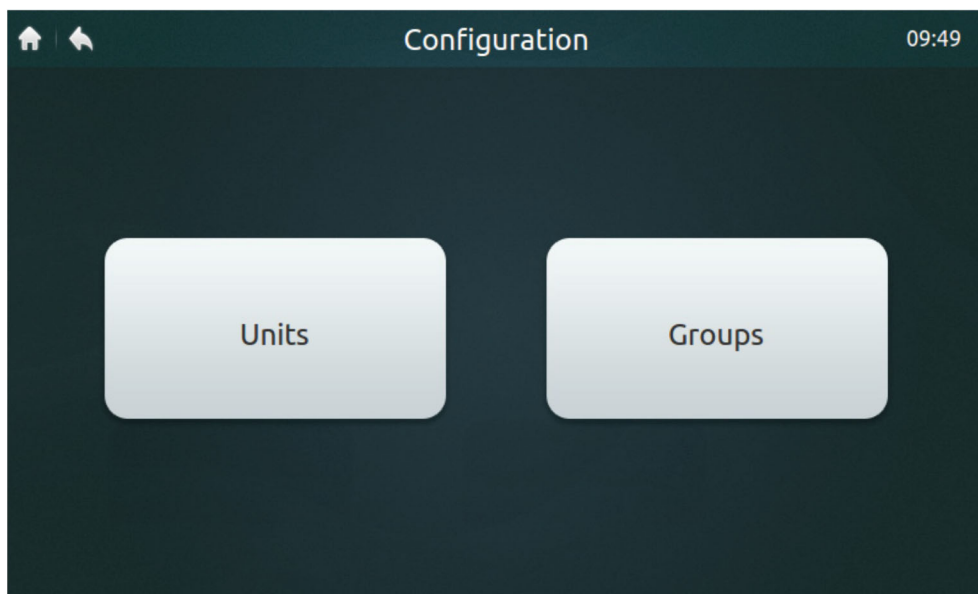
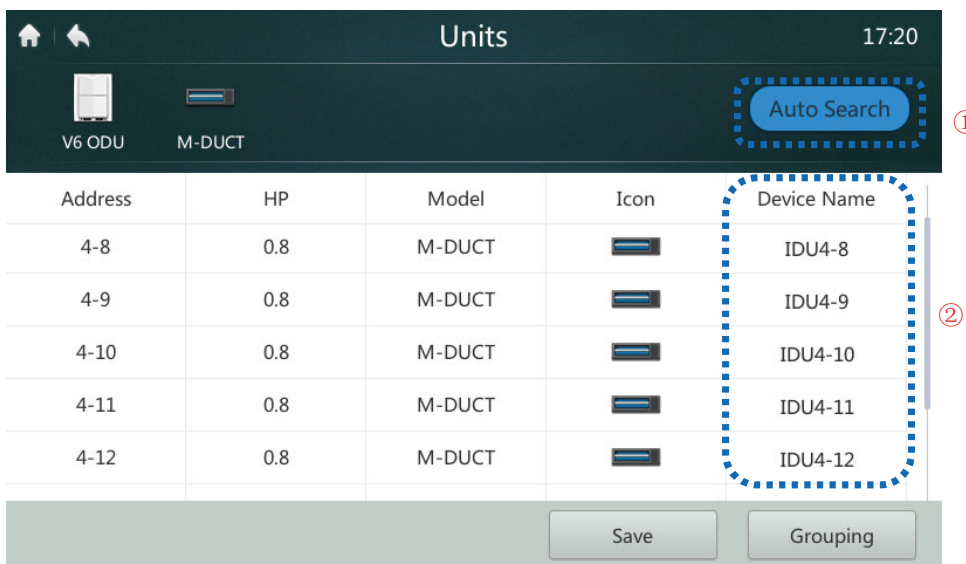
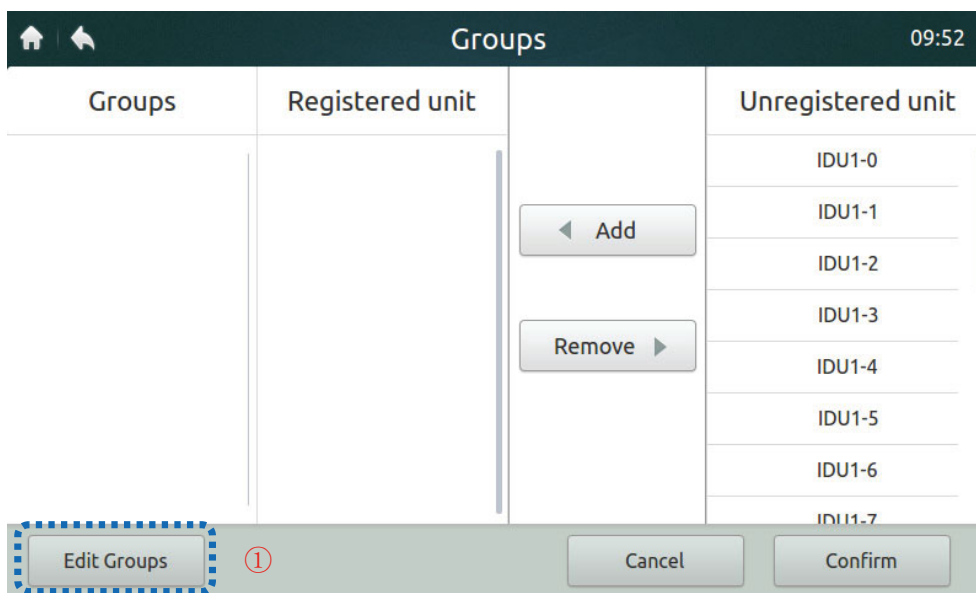
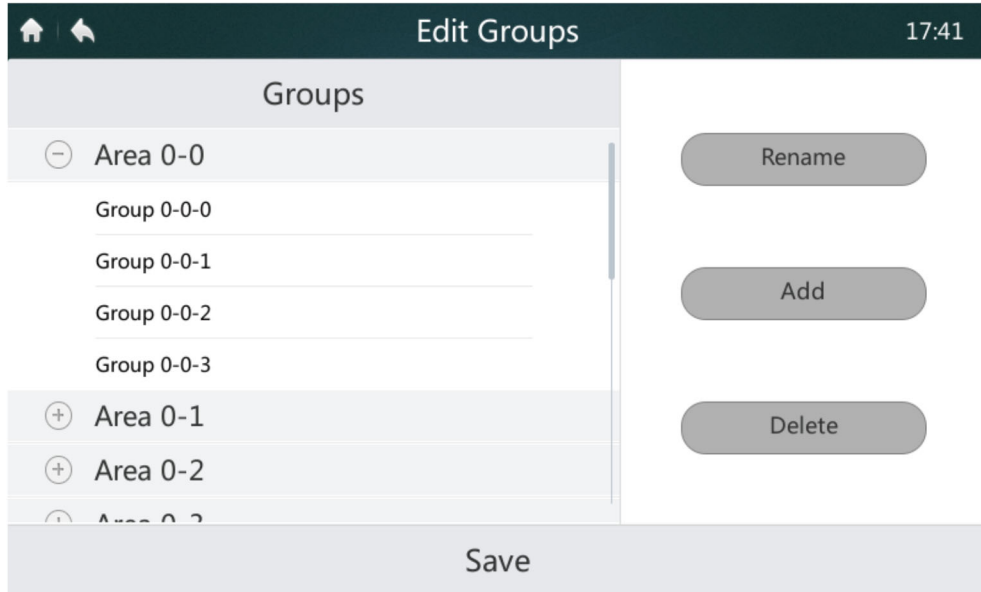

Figure 35 Homepage of Installation interface
Figure 36 Device installation page
Figure 38 Homepage 1 of Group View page
Figure 39 Editing a group
1. Tap the "Units" button, as shown in Figure 35, to enter the interface, as shown in Figure 36.
2. Tap the "Auto Search" button marked "1" in Figure 36. The connected device will be displayed on the interface. The table displays the IDU HP, IDU type (the correct type can be displayed correctly for second-generation IDUs only. Other types are first-generation IDUs), type icon (the correct type can be displayed correctly for the second-generation IDUs only. The Four-way Cassette icon is displayed for other units), and device name.
marked "2" in Figure 36 to display the input keyboard in the lower part of the screen, as shown below. Edit the device name of the corresponding address, and tap "Confirm".
1. Tap the "Groups" button marked "2" in Figure 35 to access the group view page in Figure 38. Figure 38 shows the interface where no groups are created.
2. First create a group. Tap the "Edit Groups" button marked "1" in Figure 38 to access the interface shown in Figure 39.
3. Groups can be classified into two levels (e.g.: level 1 - Area; level 2 - Group). Up to 10 groups can be created at level 1. Up to 5 groups can be created at level 2. Tap the "Add" button, as shown in Figure 38, to add the first level group by default. Tap to select the first level Area. Tap the "Add" button to add the second level group. To delete a group, select this group, and tap "Delete".
4. Select a group and tap "Rename", as shown in Figure 39, to edit the selected group name.
5. Tap the "Save" button, as shown in the lower part of Figure 39, to save the edited information.